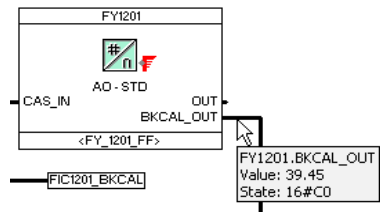

Figure 186. Online Data
- b. Move the mouse cursor on a block pin or an FF signal line to display the current values of input or outputs (refer to Figure 186).